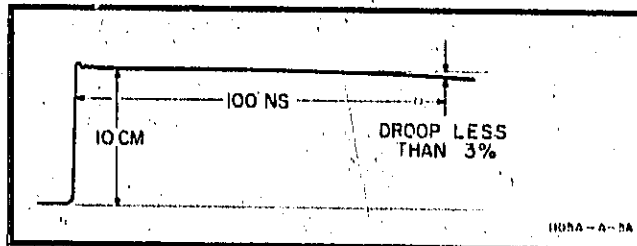

Figure 8. Pulse Droop Characteristic
f. On the sampling time base and vertical amplifier, set sweep speed for 10 ns/div, and adjust horizontal position to place the leading edge of the pulse at the left side of the oscilloscope graticule. Pulse droop should be less than 3 percent in first 100 ns of pulse. See Figure 8.